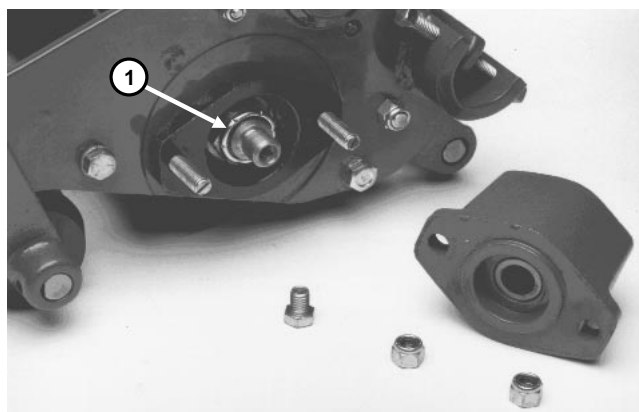

Figure 28
2. Remove counterbalance end cap (Fig. 28). Remove large bearing adjustment nut from left hand end of reel shaft (Fig. 28) and special spline nut from opposite end of reel shaft.